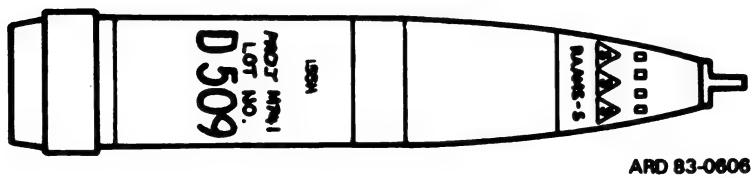

Figure 211.14.2. M741 projectile.
(16) *Projectile, 155-mm, HE, remote anti-armor mine system, M741 (fig. 211.14.2).* This projectile is also the ammunition for the RAAMS system, and it is exactly like the M718 above, except the letter "S" painted in the yellow triangles and "RAAM-S" on the ogive are different to indicate a SHORT self-destruct time. This is a base-ejection type projectile and uses the M577 series MTSQ fuze. DODAC "D509" is lettered on the projectile body.